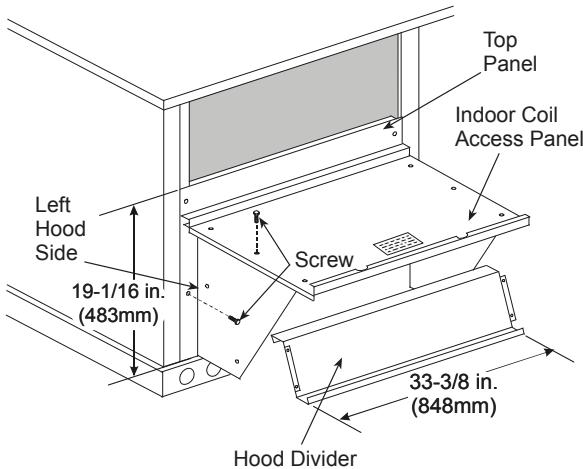

Fig. 12 – Economizer Hood Construction
2. Swing out indoor coil access panel and insert the hood sides under the panel (hood top). Use the screws provided to attach the hood sides to the hood top. Use screws provided to attach the hood sides to the unit. See Fig. 12.
4. Insert the hood divider between the hood sides. See Fig. 12 and 13. Secure hood divider with 2 screws on each hood side. The hood divider is also used as the bottom filter rack for the aluminum filter.